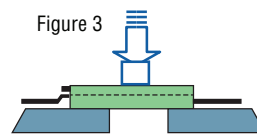

Figure 3
- c) Do not apply more than 15 N bending force to the breaker body (refer to Figure 3)